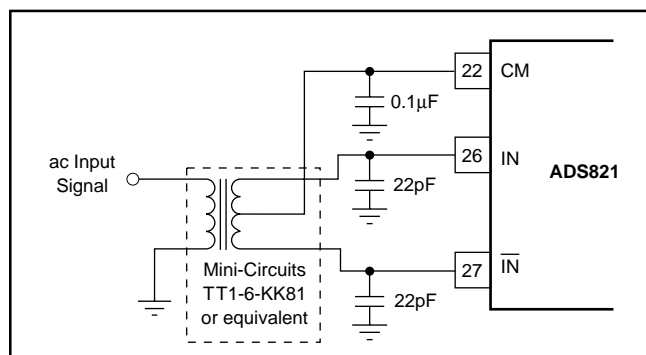

FIGURE 5. AC-Coupled Single-Ended to Differential Drive Circuit Using a Transformer.
The ADS821 has a differential input with a common-mode of +2.25V. For ac-coupled applications, the simplest way to create this differential input is to drive the primary winding of a transformer with a single-ended input. A differential output is created on the secondary if the center tap is tied to the common-mode voltage (CM) of +2.25V, as per Figure 5. This transformer-coupled input arrangement provides good high frequency ac performance. It is important to select a transformer that gives low distortion and does not exhibit core saturation at full-scale voltage levels. Since the transformer does not appreciably load the ladder, there is no need to buffer the common-mode (CM) output in this instance. In general, it is advisable to keep the current draw from the CM output pin below 0.5μA to avoid nonlinearity in the internal reference ladder. A FET input operational amplifier such as the OPA130 can provide a buffered reference for driving external circuitry. The analog IN and  $\overline{\text{IN}}$  inputs should be bypassed with 22pF capacitors to minimize track-and-hold glitches and to improve high input frequency performance.